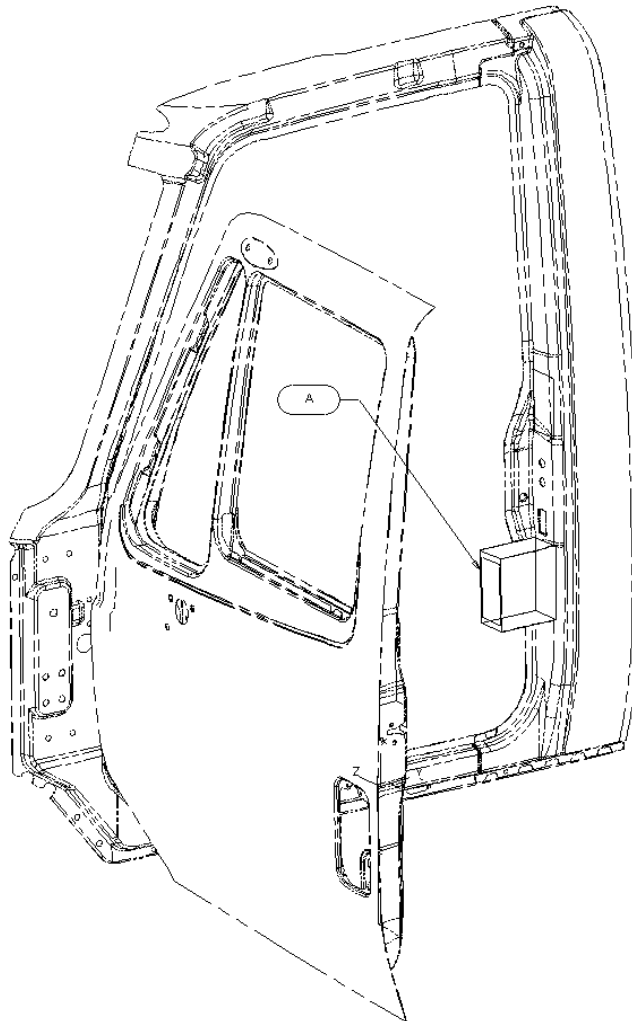

Figure 1
2. Label is to be installed on the DRIVER's side door frame area as shown in Figure 1, Item 'A'.